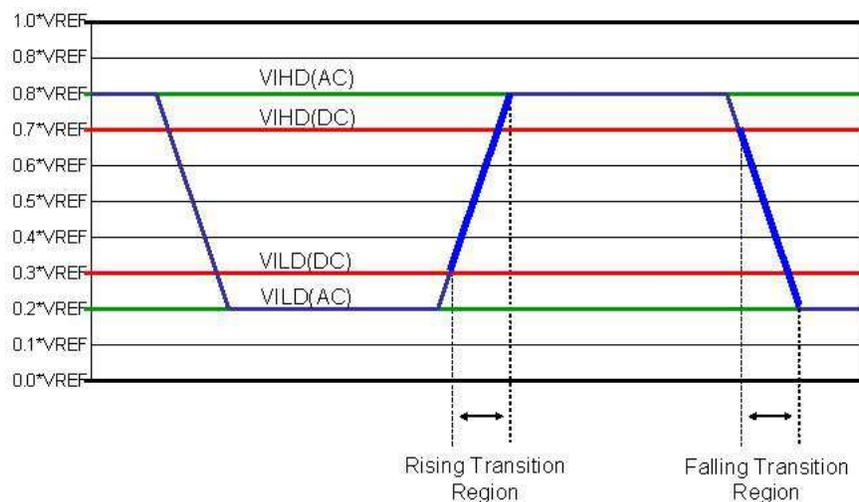

Figure 3. Low Speed (LS) I/O Input Thresholds
(1) VILD(AC) min applies to undershoot.
(2) VIHD(AC) max applies to overshoot.
(3) Signal group 1 output slew rate for rising edge is measured between VILD(DC) to VIHD(AC).
(4) Signal group 1 output slew rate for falling edge is measured between VIHD(DC) to VILD(AC).
(5) Signal group 1: See Figure 3.
(6) Signal groups 2 and 3 output slew rate for rising edge is measured between VILD(AC) to VIHD(AC).